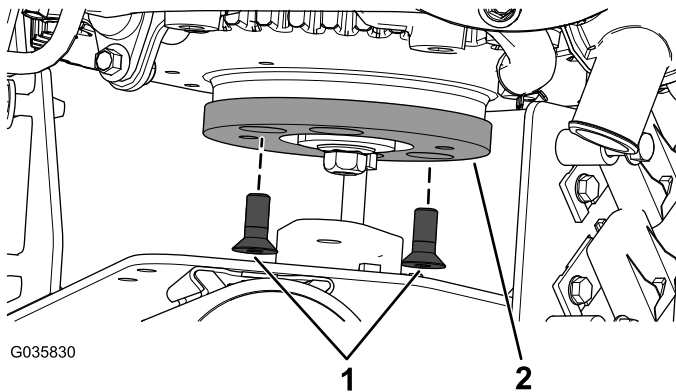

Figure 5
1. Remove the hex socket flat head screws from the adapter plate (Figure 5).
2. Remove the adapter plate (Figure 5).